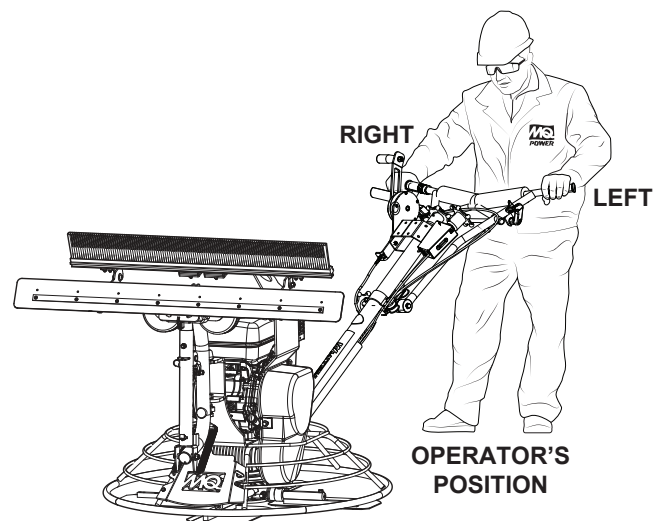

Figure 46. Operator's Position
1. With the engine running, stand in the operator's position (Figure 46) behind the trowel and grasp both hand grips securely.